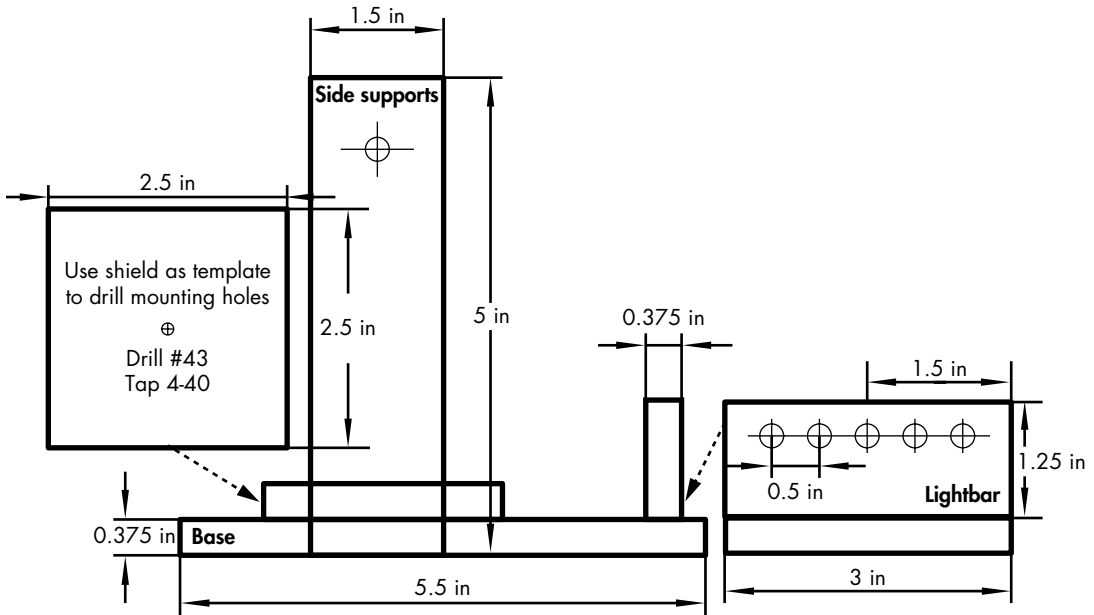

Figure 4-15: The components and configuration of the base and lightbar for the Watch Winder
The stand is the least complex part of the project. It comprises the two side supports, $1\frac{1}{2} \times 5 \times \frac{1}{4}$ inches, and the base, $\frac{3}{8} \times 3 \times 5\frac{1}{2}$ inches. I included the lightbar, $3 \times 1\frac{1}{4} \times \frac{3}{8}$ inches, and the shield mounting, $2\frac{1}{2} \times 2\frac{1}{2} \times \frac{3}{8}$ inches, with the stand (see Figure 4-15).
2.5 mm (#39) drill and tap for a M3-05 screw that the standoffs will fit into. Figure 4-15 shows the dimensions of the parts and the partially assembled base, including supports, the lightbar, and the shield mount.